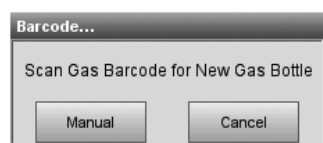

Fig. 2-6 Scan Barcode
- When prompted (Fig. 2-6), scan the new gas bottle bar code on the insert sheet by holding it 2-3 inches (5-8 cm) from the bar code scanner located on the bottom right-hand corner of the analyzer.